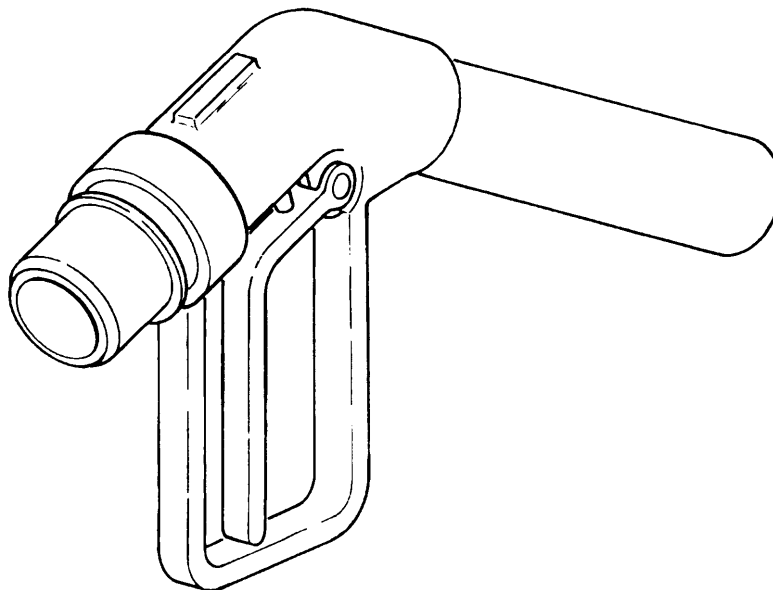

Figure 1-11. Gravity Fill Adapter.
**1-16. GRAVITY FILL ADAPTER.** (Refer to Figure 1-11.)